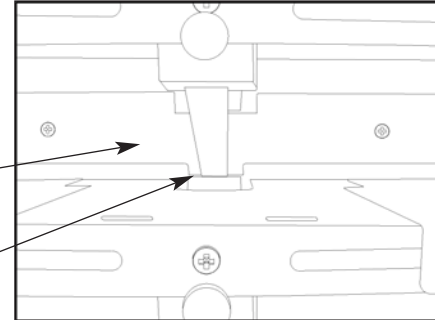

Figure 1
2. Look in each feed shelf of your unit, and verify that the tips of the sheet Sheet Separator (see Fig. 1) are not in contact with the feed wheels. These are preset at the factory and should not need to be adjusted.